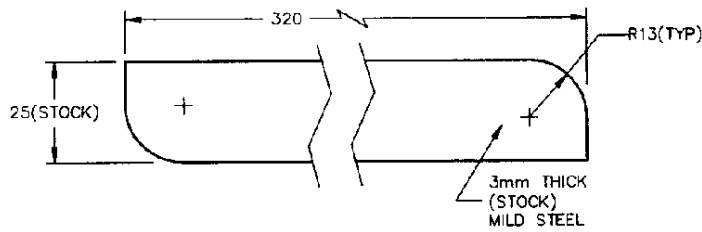

Figure 1 – Strengthening Strap
- b. Manufacture strengthening strap, using Item 1 of Table 1, as detailed in Figure 1.